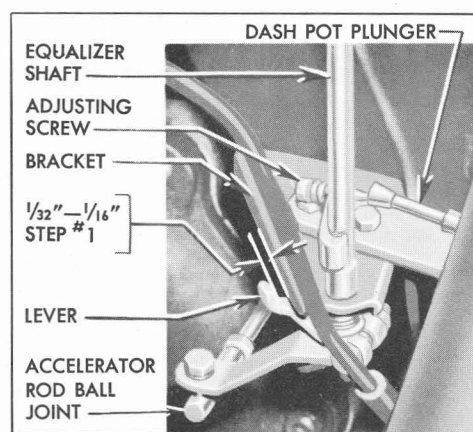

Figure 3-15—Throttle Dash Pot Adjustment—Dynaflow Drive Cars
1. With engine idling at 450 RPM, check clearance between the stop on lever at lower end of equalizer shaft and the shaft lower bracket. See figure 3-15. If clearance is not $\frac{1}{32}$ " to $\frac{1}{16}$ ", adjust throttle operating rod at ball joint to obtain $\frac{1}{32}$ " to $\frac{1}{16}$ " clearance.
4. Hold choke valve closed and check clearance between the fast idle cam and the adjustment or stop screw. Clearance should be $\frac{1}{64}$ " to $\frac{1}{32}$ ", and may be obtained by adjusting the screw on the dash pot operating lever at lower end of equalizer shaft. See figure 3-15.